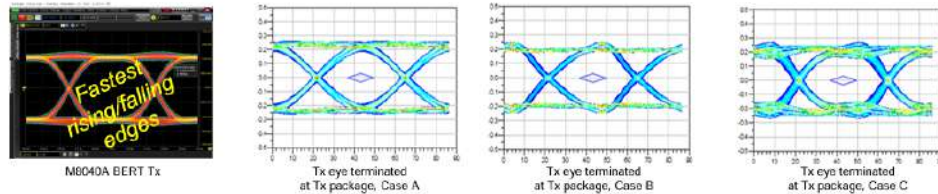

Figure 57. Tx eye performance comparisons at the location of Tx balls of BGA (@23.2960Gbps)
- As shown with the case study of Figure 57, the Tx rise/fall time of BERT is the fastest one among the four candidates when setting the Tx EQ (de-emphasis/pre-shoot) as 0dB.